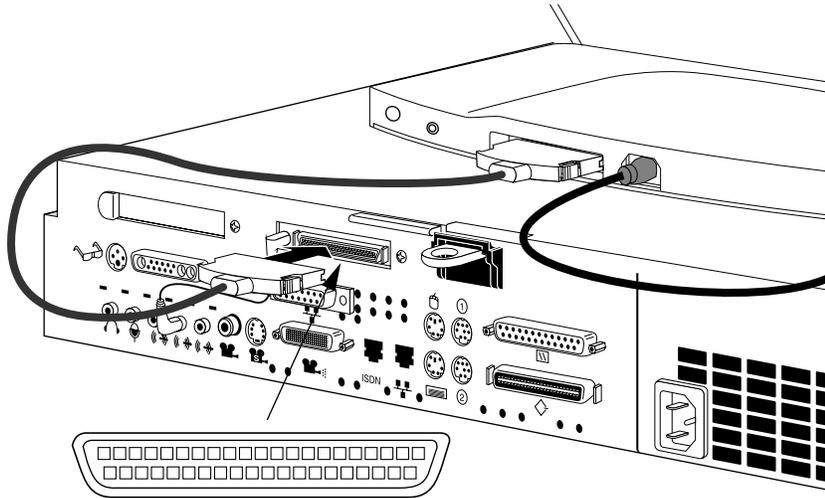
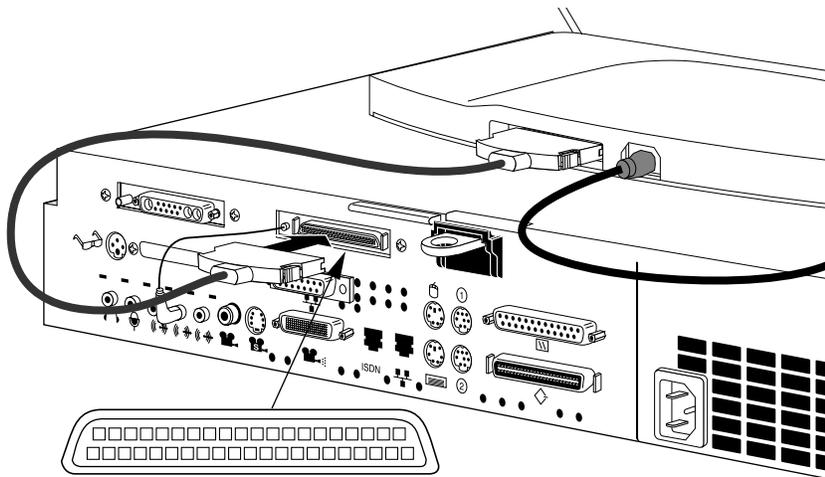

Figure 3-19 Connecting the Presenter 1280 Interface Cable: Indy Graphics
Figure 3-20 Connecting the Presenter 1280 Interface Cable: Indy XZ Graphics
1. If you received an interface cable with a large connector at one end and a small connector at the other end, connect the smaller end to the base of Presenter 1280. Connect the larger end to Presenter 1280. See Figure 3-19 (Indy graphics) and Figure 3-20 (Indy XZ graphics).
2. If you received an interface cable with identical connectors at each end, connect either end to the base of Presenter 1280. Connect the other end to the Presenter 1280 connector on your workstation. See Figure 3-19 (Indy graphics) and Figure 3-20 (Indy XZ graphics).